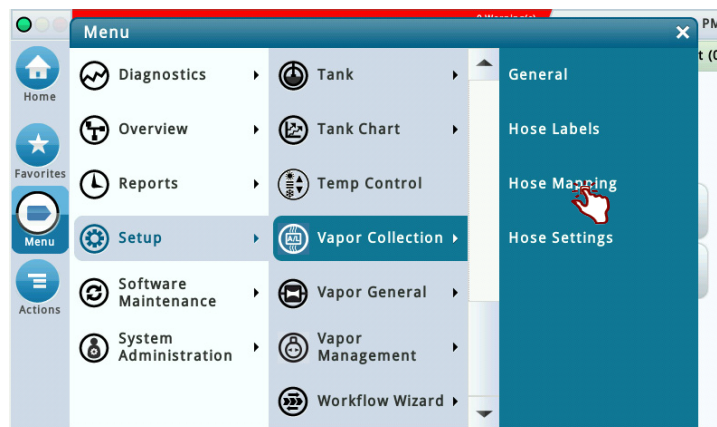
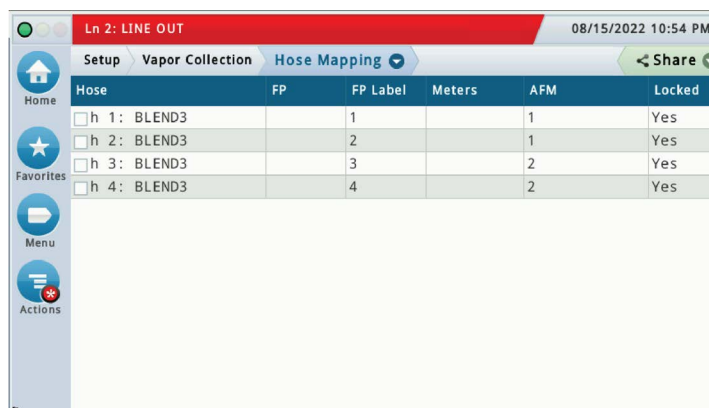

Figure 22. Accessing Vapor Collection Hose Mapping Setup Screen
Figure 23. Vapor Collection Hose Mapping Setup Screen
1. Touch Menu>Setup>Vapor Collection>Hose Mapping (Figure 22). Touch Hose Mapping to access the Vapor Collection Hose Mapping setup screen (see example in Figure 23).